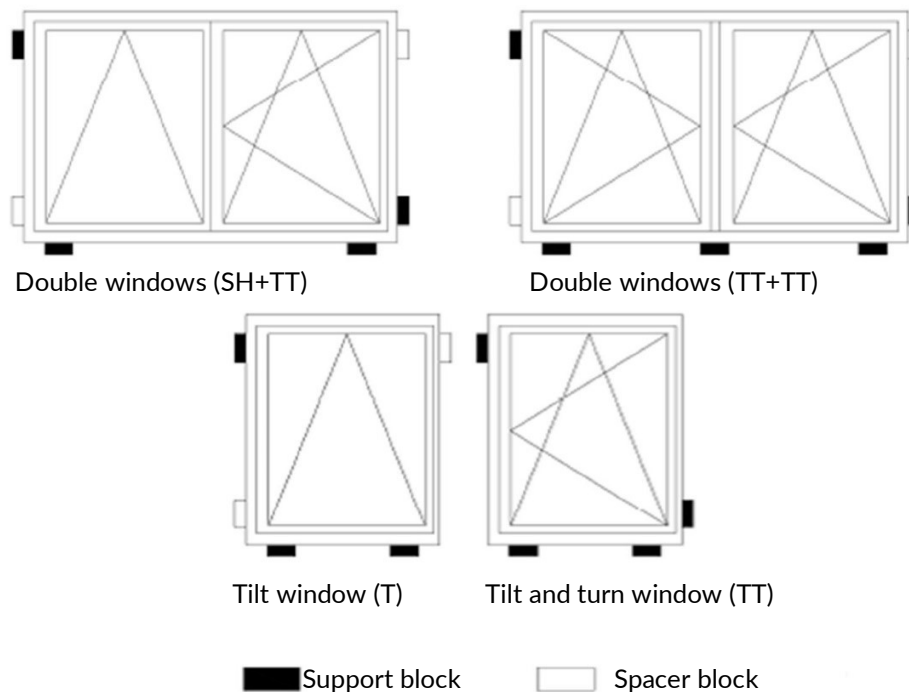

Fig. 2. Location of support and spacer blocks
4. The layout of spacer and support blocks is shown in Fig. 2.